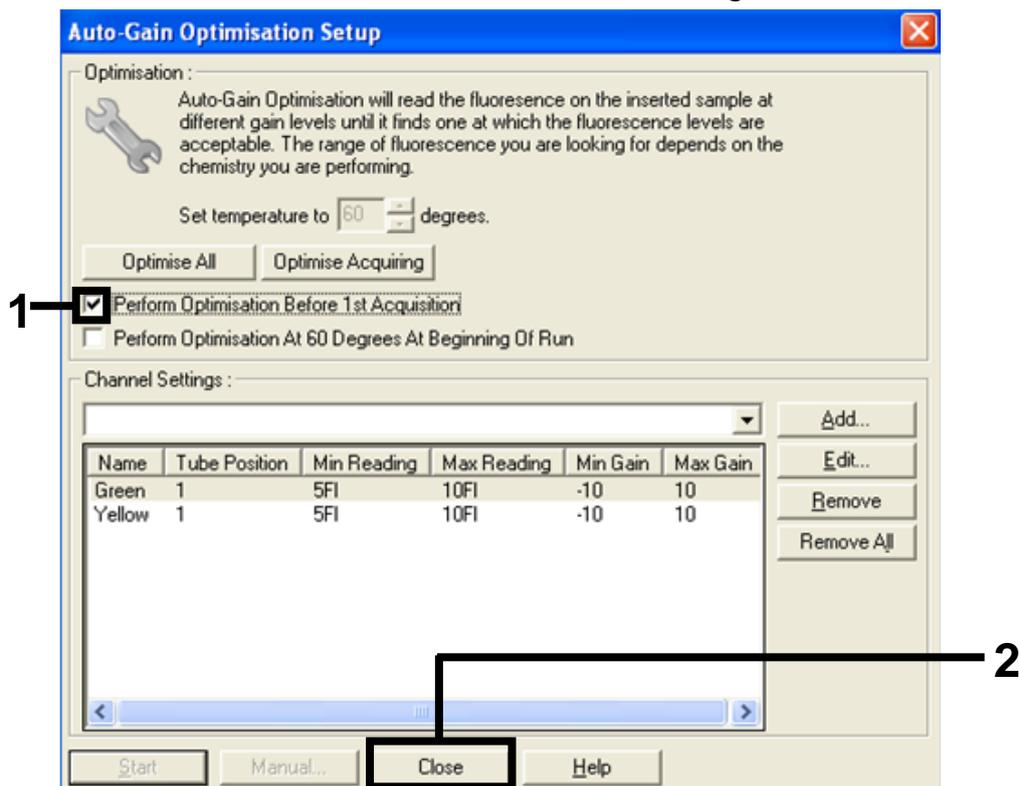

Figure 31. Selection of Green and Yellow channels (1 = "Perform Optimisation Before 1st Acquisition" tick box; 2 = "Close" button).
14. Check the "Perform Optimisation before 1st Acquisition" box, and then click the "Close" button to return to the wizard (Figure 31).